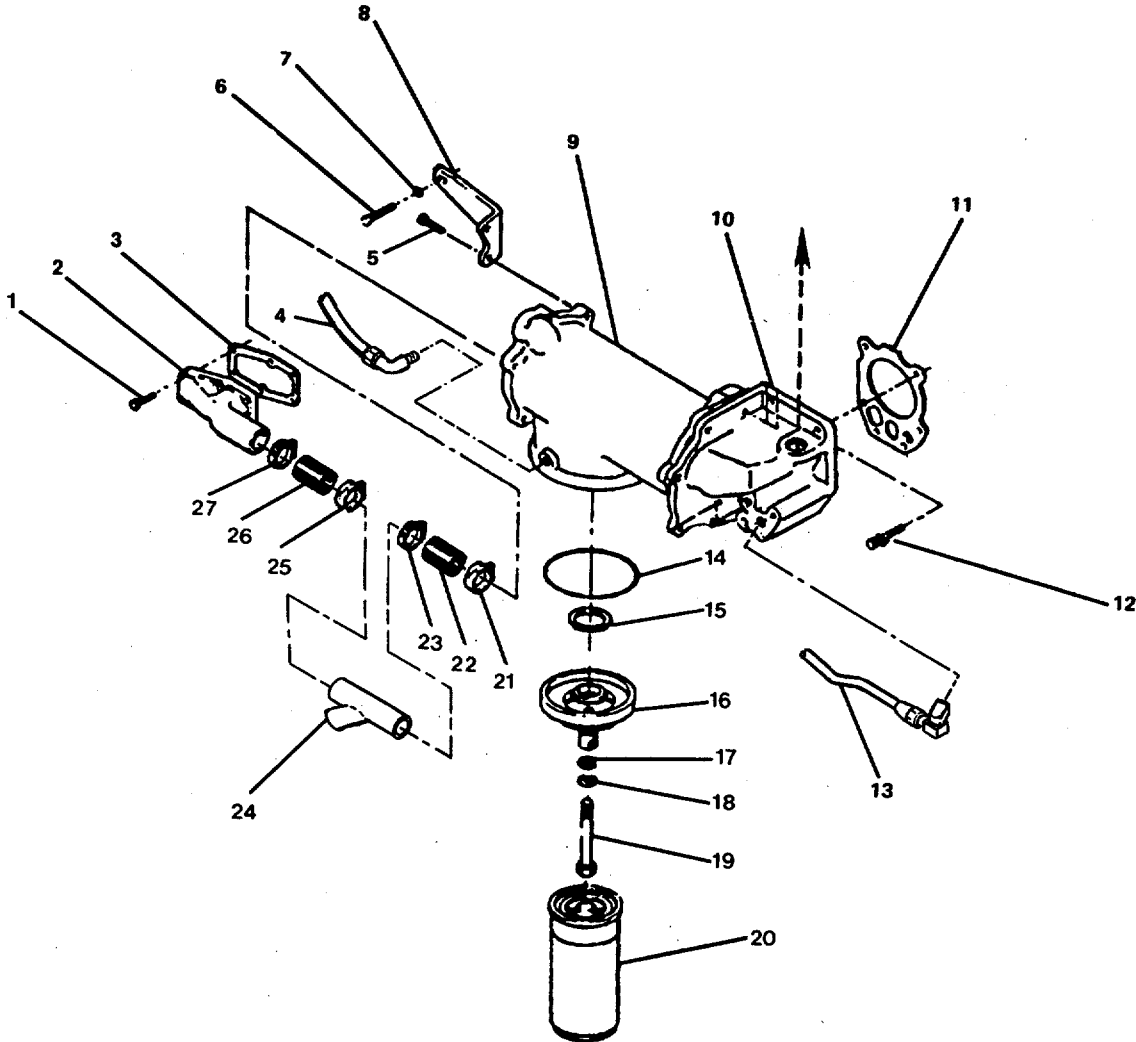

FIGURE 2-23. Lube Oil Cooler/Filter Group.
- a. Remove turbocharger oil supply tube (4, FIGURE 2-23) and bypass filter return tube (13).
- b. Loosen hose clamp (27) and remove nonmetallic hose (26) from flange to hose elbow (2).
- c. Loosen hose clamp (25) and hose clamp (23) and remove transfer tube (24).
- d. Loosen hose clamp (21) and remove nonmetallic hose (22) and hose clamps (23 and 21) from oil cooler (9).
- e. Remove six assembled washer screws (1) and remove flange to hose elbow (2) and gasket (3). Discard gasket.
- f. Using filter wrench, remove oil fluid filter element (20) by turning counterclockwise. Discard fluid filter element.